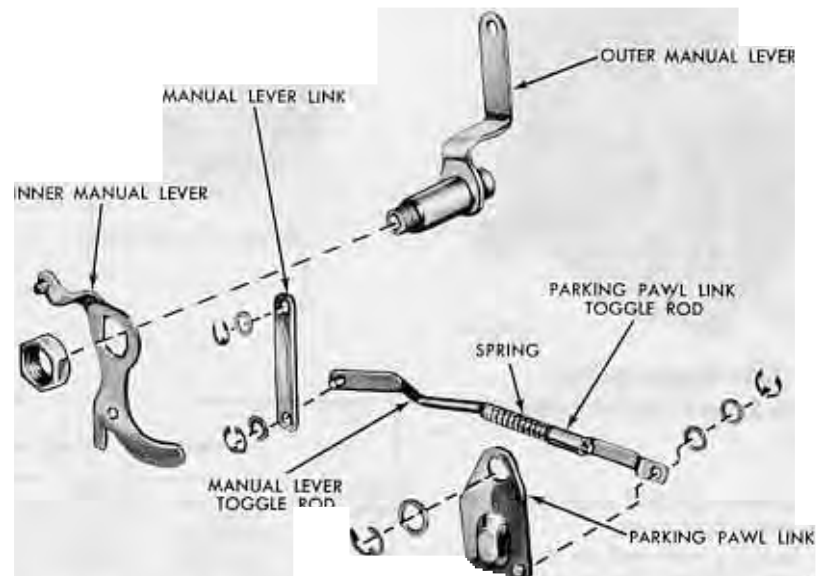

FIG. 59—Case Linkage
4. Remove the rear parking pawl link lower retaining ring, flat washer and link from the toggle rod (Fig. 59).